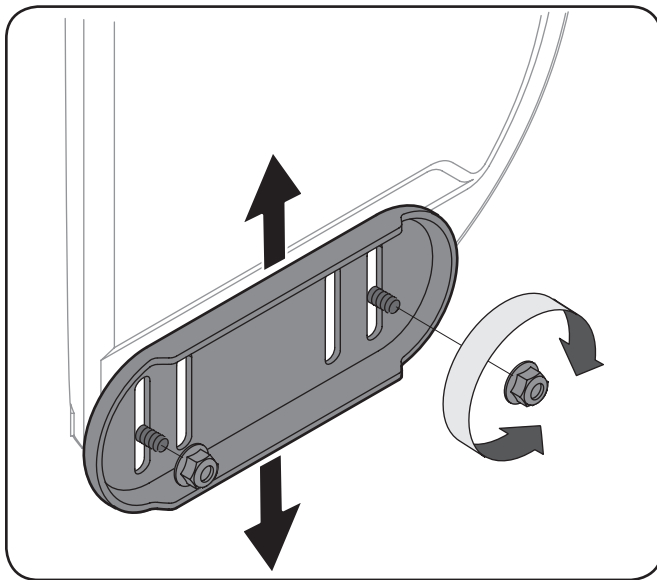

Figure 3-10
1. Loosen the four hex nuts (two on each side) and carriage bolts. Move skid shoes to desired position. See Figure 3-10.